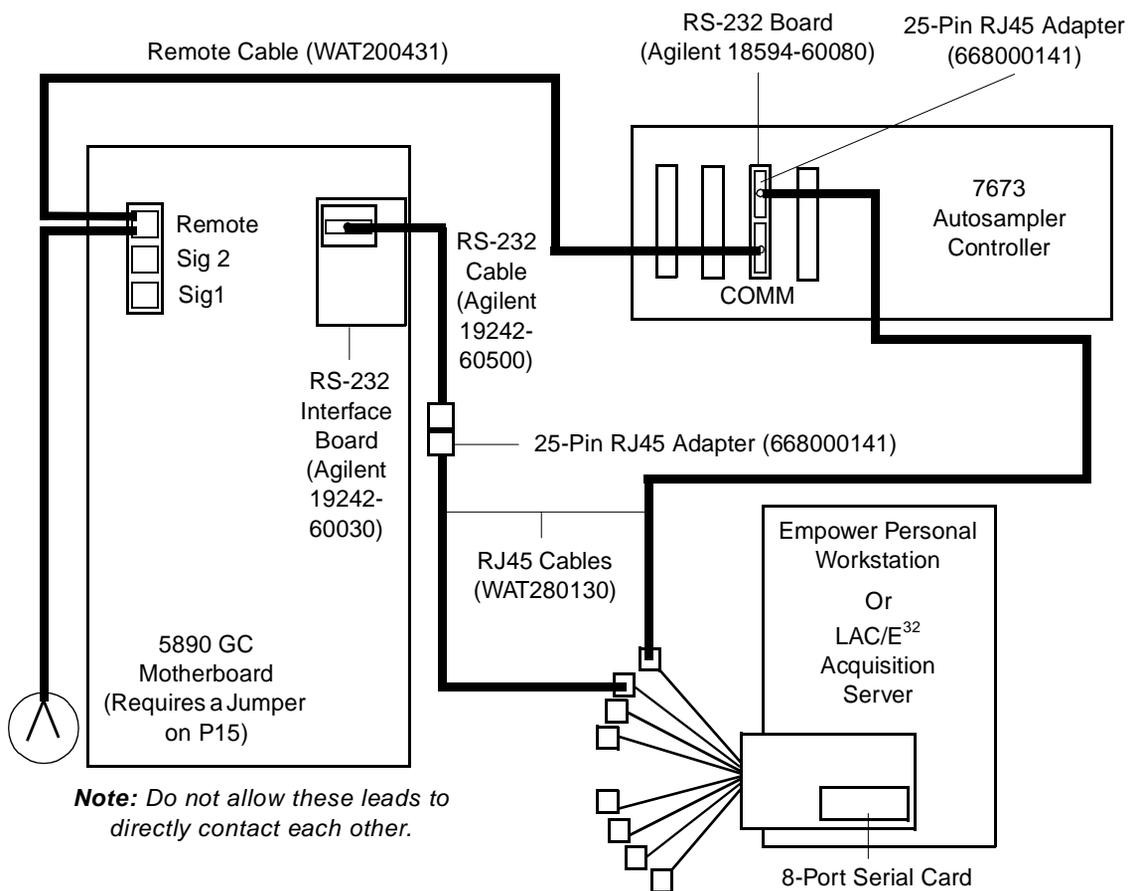

Figure 2-2 Connecting a 5890 GC and 7673 Controller to the Serial Card
1. Using RS-232 cables, connect each GC device (5890 and 7673) to separate serial ports on the cables extending from the 8-port serial card (Figure 2-2). Each serial card cable is labeled with the corresponding port (1 – 8).